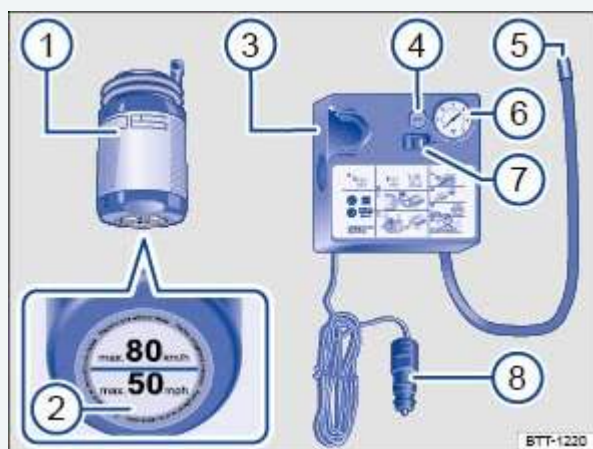

Fig. 230 Basic diagram: Contents of the tire mobility set.
The tire mobility set may be stored in one of several places in the luggage compartment (for example, in the side storage compartment or under the floor covering). It contains the following ⇒ Fig. 230:
- Vigorously shake the tire inflation cylinder ⇒ Fig. 230① a few times back and forth.
- Tightly screw the inflation hose on the air compressor ⇒ Fig. 230⑤ to the valve on the top of the sealant cylinder.
- Tightly screw the filling hose from the tire inflation cylinder ⇒ Fig. 230① to the tire valve.
- Hold the cylinder with the bottom pointing up and insert the top of the cylinder into the notch in the air compressor ⇒ Fig. 230③.
- Insert the 12 Volt plug ⇒ Fig. 230⑧ into one of the vehicle's 12 Volt sockets ⇒ Power outlets.
- Switch the air compressor on using the ON/OFF switch ⇒ Fig. 230②.
Connect the inflation hose ⇒ Fig. 230 from the air compressor to the tire valve and read the tire pressure on the tire pressure gauge ⑥.